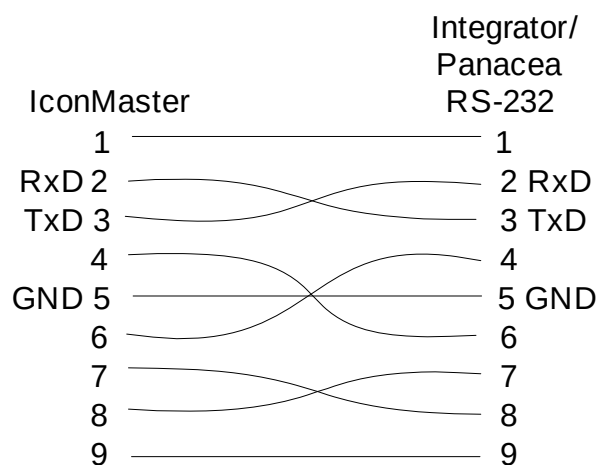

Figure 2-35. RS-232 IconMaster Port E to Integrator or Panacea Pin Connections
2. If necessary, extract the jumper packs, and then rotate them to match the RS-232 or RS-422 setting as required. Figure 2-35 shows RS-232 and RS-422 orientation.